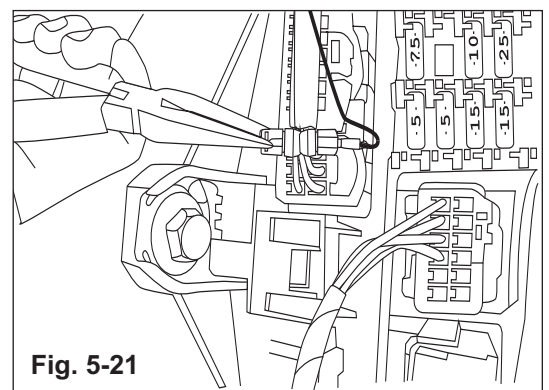

Fig. 5-21
- b) Attach wire tap connector to the **Orange / Blue-Striped** wire in pin **OB** of the 6-pin connector. (Fig. 5-21)